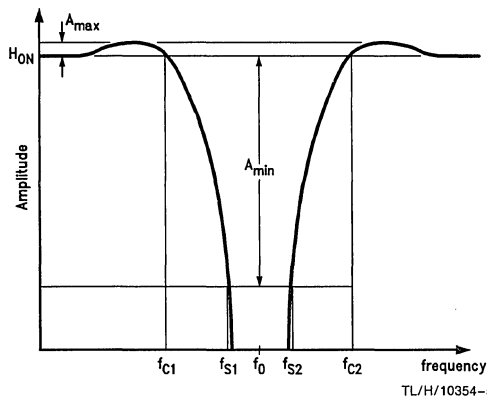

FIGURE 1. General Form of Notch Response
**$A_{max}$ :** the maximum amount of gain variation within the filter's passband (See *Figure 1*). For the LMF90,  $A_{max}$  is nominally equal to 0.25 dB.
**$A_{min}$ :** the minimum attenuation within the notch's stopband. (See *Figure 1*). This parameter is adjusted by programming voltage applied to pin 10 (D).
**Bandwidth (BW) or Passband Width:** the difference in frequency between the notch filter's two cutoff frequencies.
**$f_{CLK}$ :** the frequency of the clock signal that appears at the CLK pin. This frequency determines the filter's center frequency. Depending on the programming voltage on pin 2 (R),  $f_{CLK}$  will be either 33.33, 50, or 100 times the center frequency of the notch.
**Passband:** for a notch filter, frequencies above the upper cutoff frequency ( $f_{C2}$  in *Figure 1*) and below the lower cutoff frequency ( $f_{C1}$  in *Figure 1*).
**Stopband:** for a notch filter, the range of frequencies for which the attenuation is at least  $A_{min}$  ( $f_{S1}$  to  $f_{S2}$ ) in Figure 1).